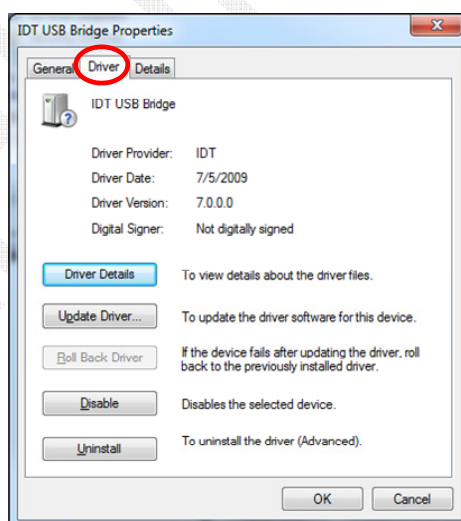
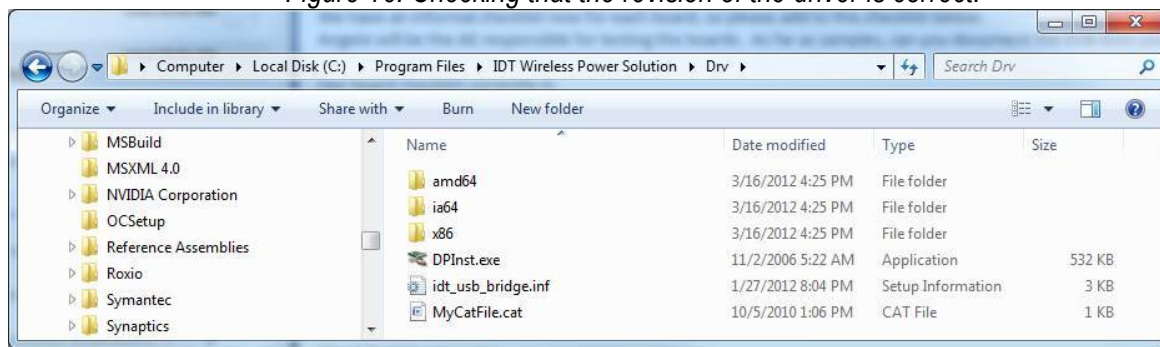

Figure 16. Checking that the revision of the driver is correct.
Figure 17. Installed Device Driver Directory.
5. **Update the Driver.** If you have a previous version of the eval tool, the driver will probably need to be updated. The way to check on the version of the driver is to open up the Device Manager as shown in Figure 14. Expand the USB Bridge Devices and double click on it. Click on the Driver Tab, and be sure its' Driver Date is 7/5/2009 and Version is 7.0.0.0. See Figure 16. If it is not version 7.0.0.0 then go to directory C:\Program Files\IDT Wireless Power Solution\Drv as shown in Figure 17 and double click the DPInst.exe file. The system will then go through a driver update install. Be sure to reboot your machine once the install is complete.